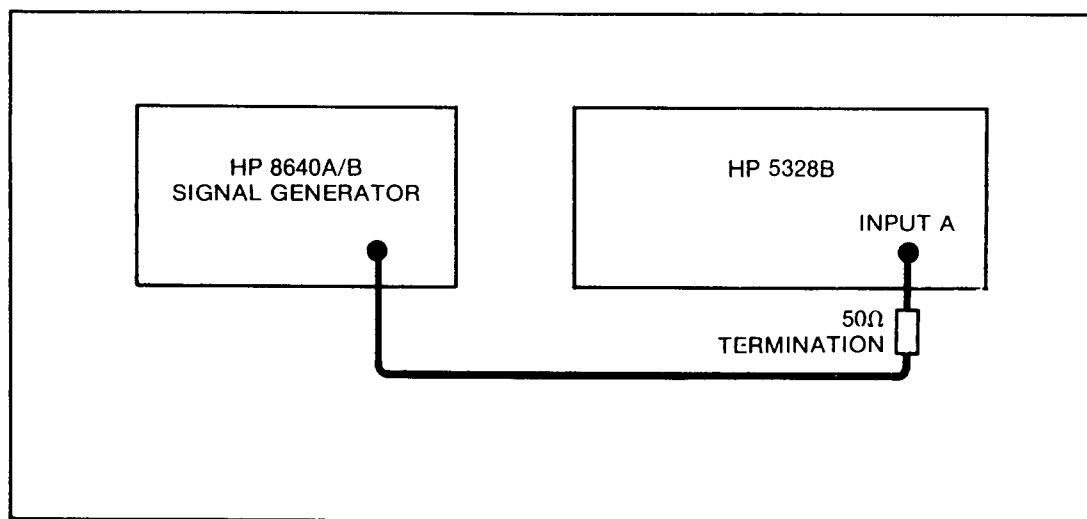

Figure 4-1. Channel "A" Test Setup
- a. Set up equipment for this test as shown in Figure 4-1.